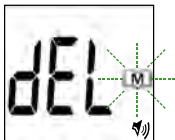

Figure 16
If you want to clear ALL memory, press the "M" button for (4) four seconds. See Figure 16. The " - - - " will appear to indicate all memory has been deleted and the meter will turn off.